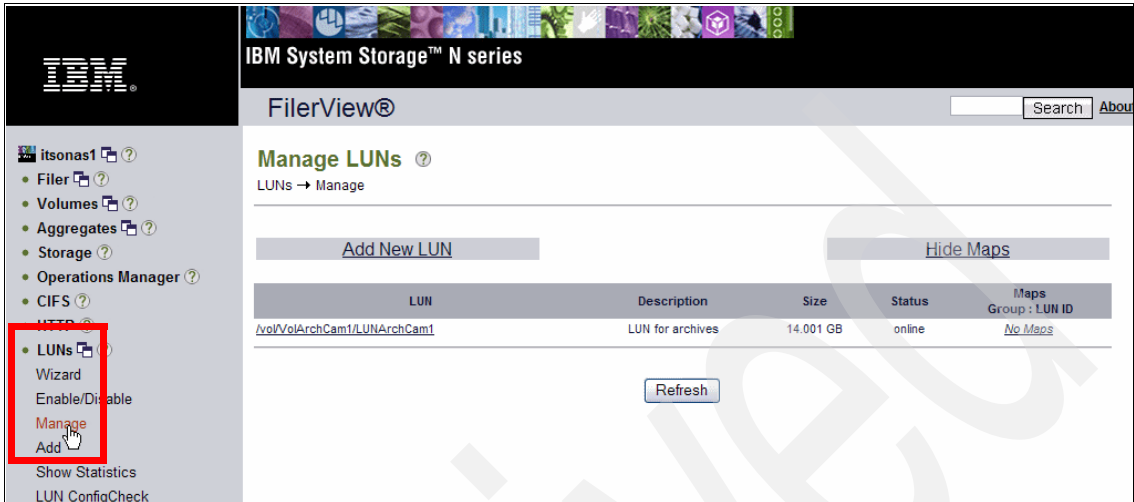

Figure 7-26 LUNs /Manage - LUN created
2. Under LUNs, select **Manage**, verify that the LUN is created, as shown in Figure 7-26.